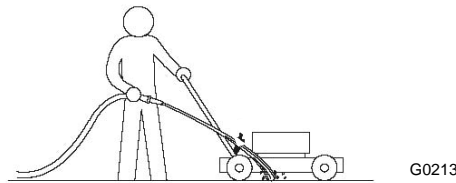

FIGURE 11
- c) Hold the running garden hose a handle level and direct the water to flow on the ground just in front of the right rear tire (Figure 11).